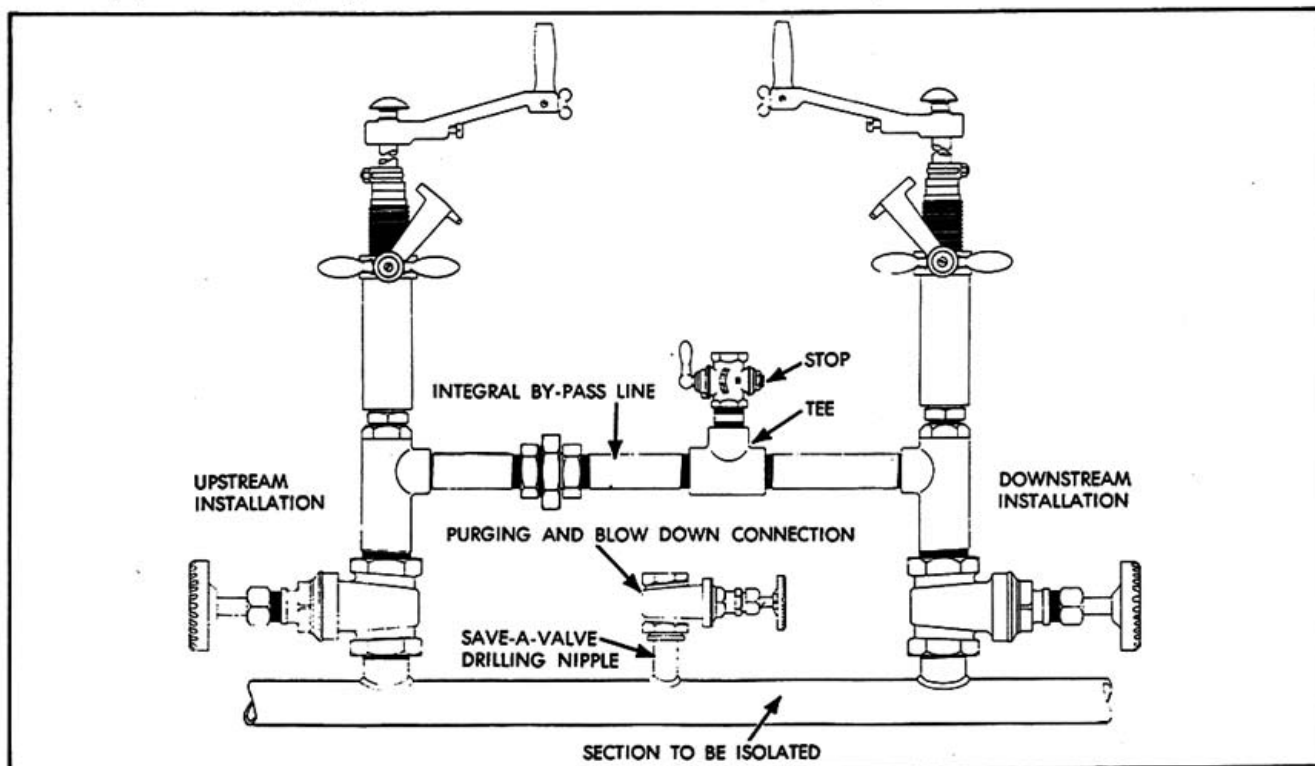

FIGURE 13
8. Open the stop in by-pass line and open the upstream gate valve slightly to purge air from the by-pass line then close the stop. See FIGURE 13.